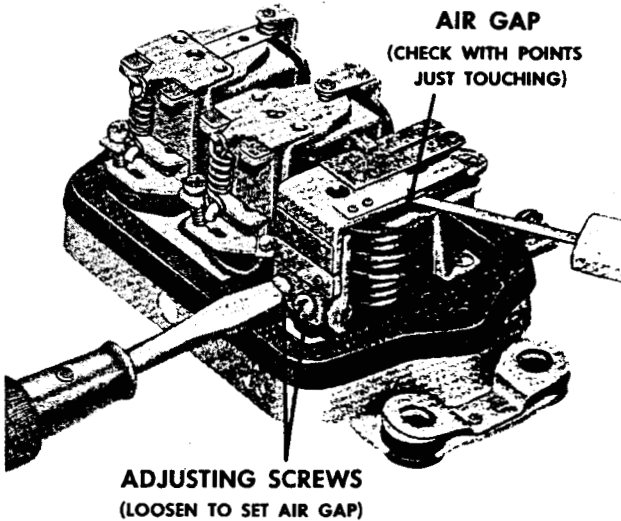

Figure 9—Cutout relay air gap check and adjustment. Battery must be disconnected when this check is made.
**AIR GAP**—Place fingers on armature directly above core and move armature down until points just close and then measure air gap between armature and center of core (Fig. 9). On multiple contact point relays, make sure that all points close simultaneously. If they do not, bend spring finger so they do. To adjust air gap, loosen two screws at the back of relay and raise or lower the armature as required. Tighten screws after adjustment.